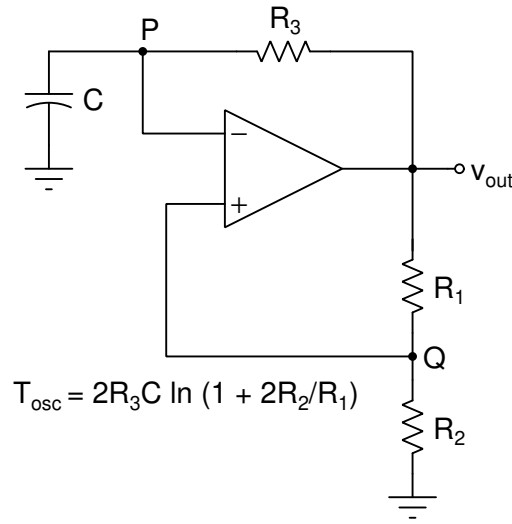

Figure 28
- Fig. 28 depicts an opamp based RC oscillator, where the time period of oscillation can be given as follows (derive it - home work)
- Connect the circuit as shown in Fig. 28 with $R_1 = R_2 = 10\text{ k}\Omega$, supply voltages $= \pm 12\text{ V}$, $R_3 = 1\text{ k}\Omega$ and $C = 1\text{ }\mu\text{F}$. Theoretically calculate f_{osc} .